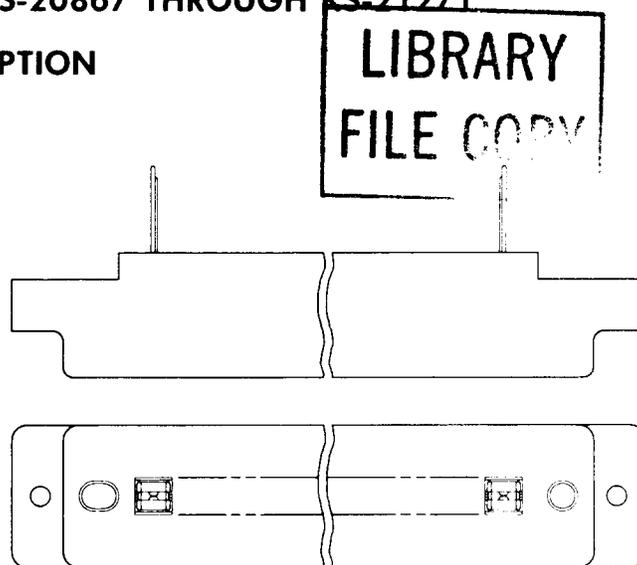

Fig. 1—KS-20867, L1 or L2 Connector
**2.01 KS-20867, L1 and L2:** The KS-20867, L1 and L2 (Fig. 1) are polarized, multicontact, female connectors, consisting of a rectangular block of insulating material, equipped with fork-type contacts. The wiring end of each terminal is arranged for one solderless wrap connection of 24-gauge wire. These connectors are used in repeater plug-in units in T2 line connectors.